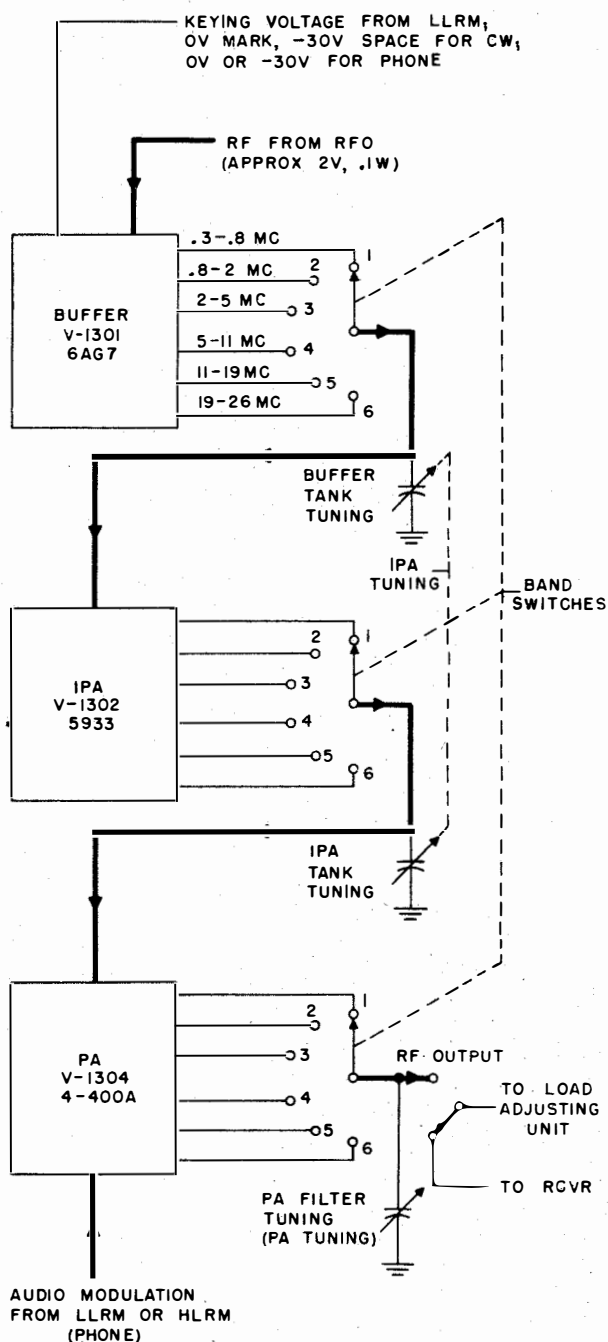

Figure 7-67. Radio Frequency Amplifier
a. **TROUBLE SHOOTING.**—When a fault is localized to the RFA, visual indications will aid in locating the faulty circuit. The RFA block diagram is represented in figure 7-67. These indications will vary with the mode of transmission and the power level of the output. Both the **VOLTMETER** and **ANT. CURRENT** meters may be used to check the r-f input and output of the RFA, respectively. **METER SELECTOR** switch (J) should be in the **RF IN (5 V)** position for checking the input to the RFA, with switch (A) to **INT.** and control (Z) clockwise.
Figures 7-67 through 7-77 show the location of all the components in the RFA.